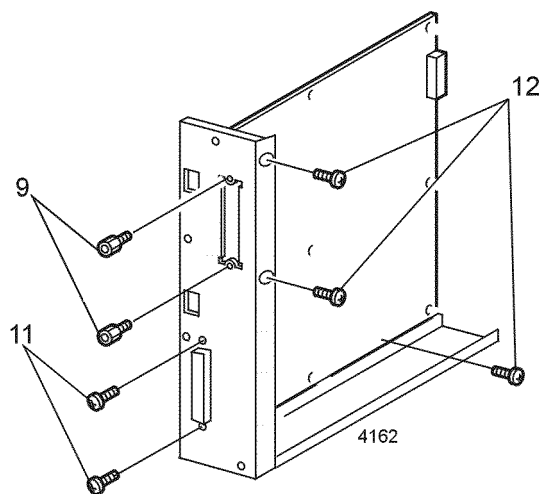

Figure 3 System Controller PWB
9. If installed, remove the two screws that secure the Network Card to the frame assembly (Figure 3). Remove the network card.
11. Remove the two screws that secure the parallel connector to the frame assembly (Figure 3).
12. Remove the three screws that secure the System Controller PWB to the frame assembly (Figure 3). Remove the System Controller PWB.